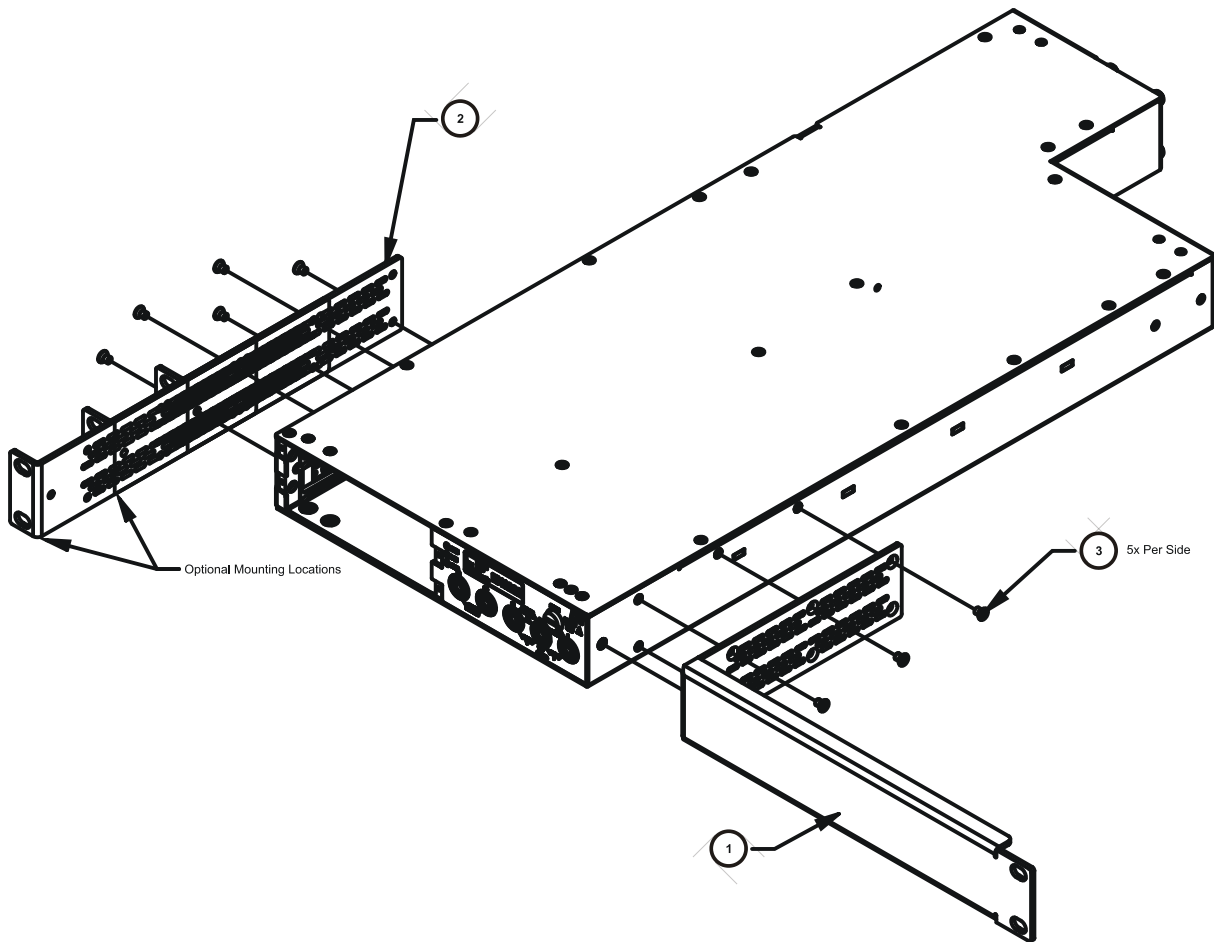

FIGURE 2-4: RACKMOUNT EARS INSTALLATION DIAGRAM (EXPLODED FRONT VIEW)
- 2) Using a #2 Phillips screwdriver, install the rack ears (P/N: 41-0482-009 and 41-0493-011) on the front of the EX1200 using five (5) 6-32 x 3/8" flat head Phillips stainless steel screws (P/N: 37-0114-025) per rack ear. Note that the "Optional Mounting Locations" in Figure 2-4 allow the EX1200 to be installed in a rack either flush or recessed.